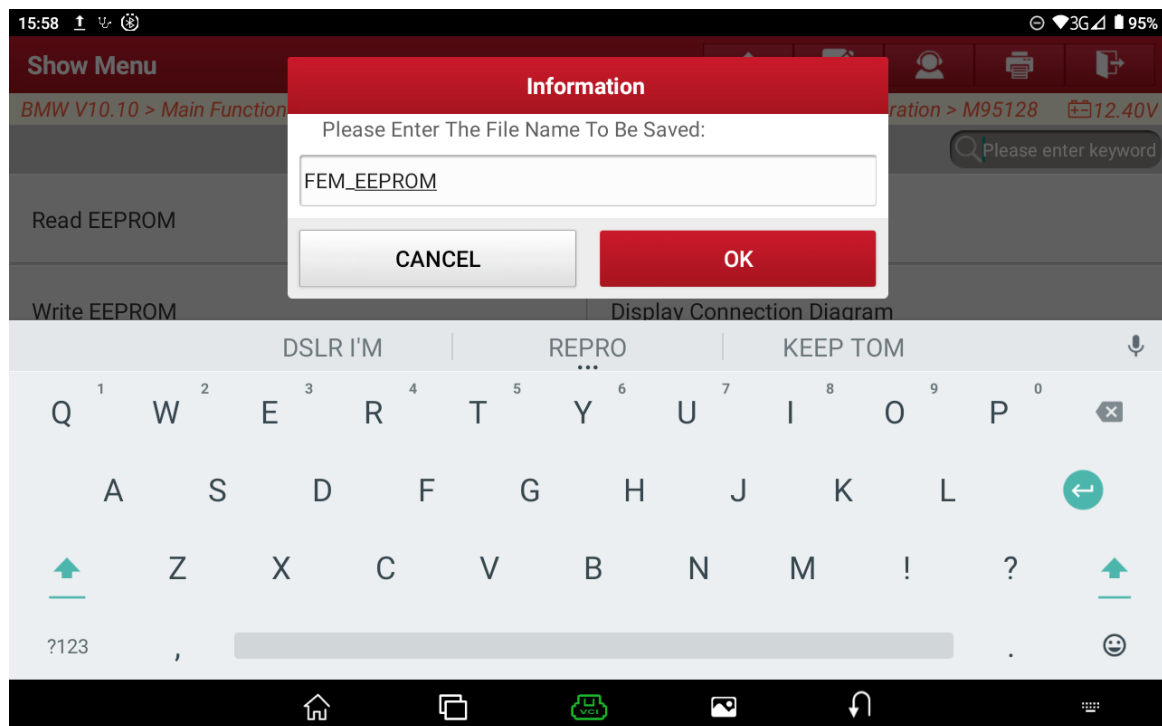

Figure 17
17. Enter the EEPROM file name and select [OK], as shown in Figure 17.